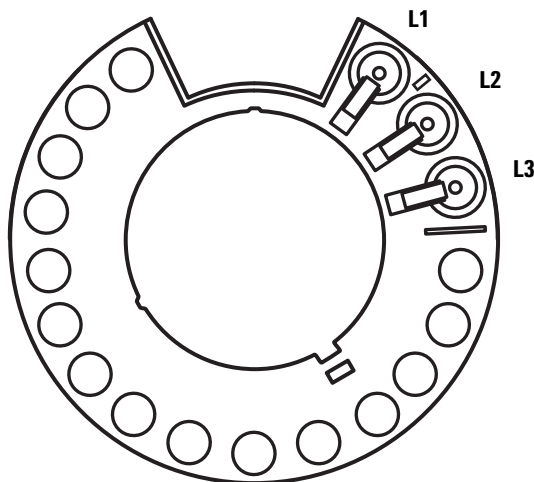

Figure 24 Transfer turret positions L1, L2, L3 (top view)
- 2 Remove any vials from transfer turret positions L1, L2, and L3 for all installed injectors (Figure 24).